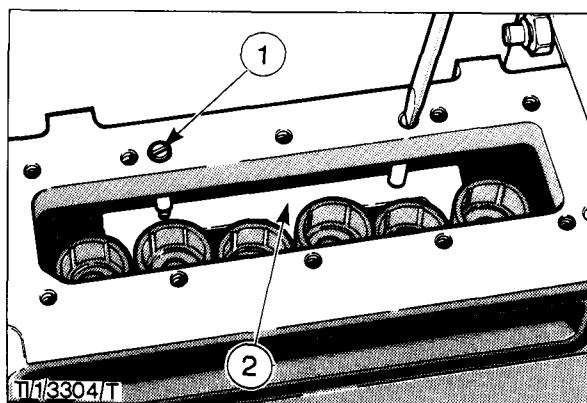

Fig. 81 - Installing the Tappet Retaining Plate
3. Dover - Fit the 'E' shaped tappet retaining plate to the tappet chamber and retain it with the two long grub screws (Fig. 81).